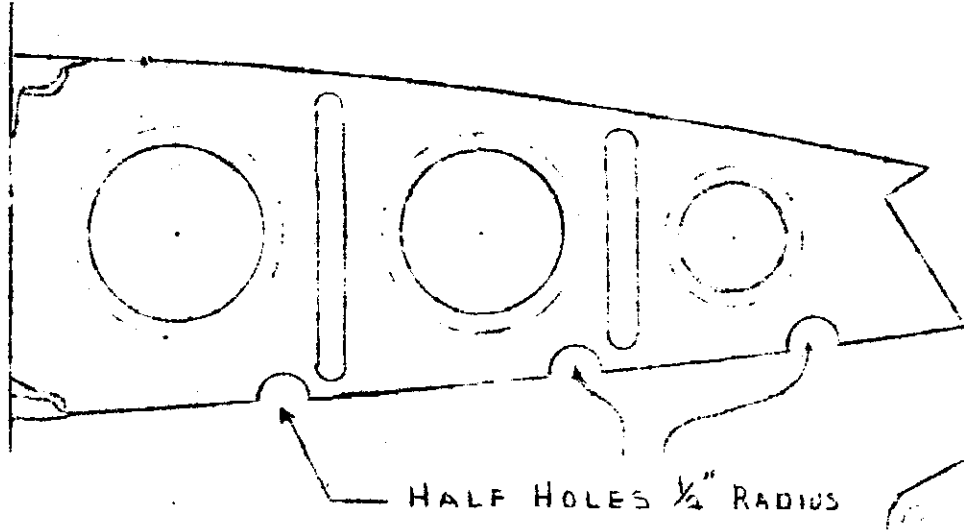

FIG. 2
2. Use heavy skins (.040) and heavy ribs (.040) in the tank area. Skin splices should be outside of the tank area. Obviously, no lightening holes at the tank end ribs - Add fuel drainage cut - outs in the bottom flange of intermediate rib. * See Fig. 2